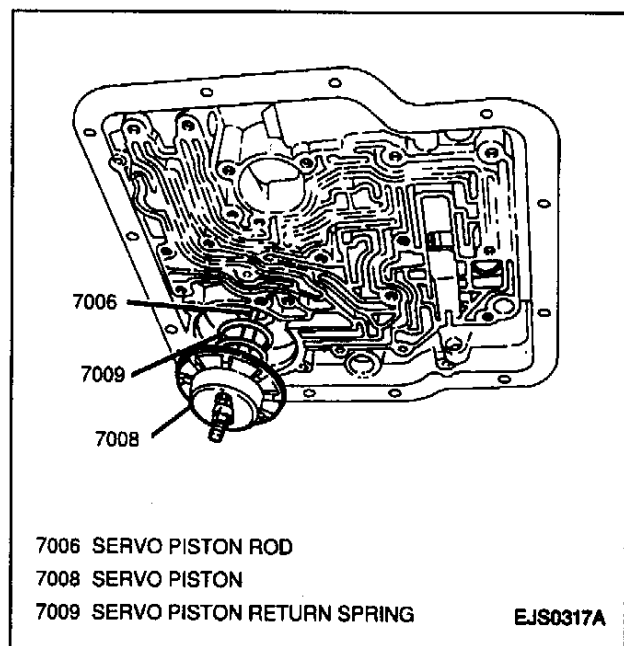

Figure 40—Removing Servo Piston, Return Spring and Apply Rod (3L30, 3-Speed)
17. Servo piston, return spring and servo apply rod from servo bore in transmission case (Figure 40).